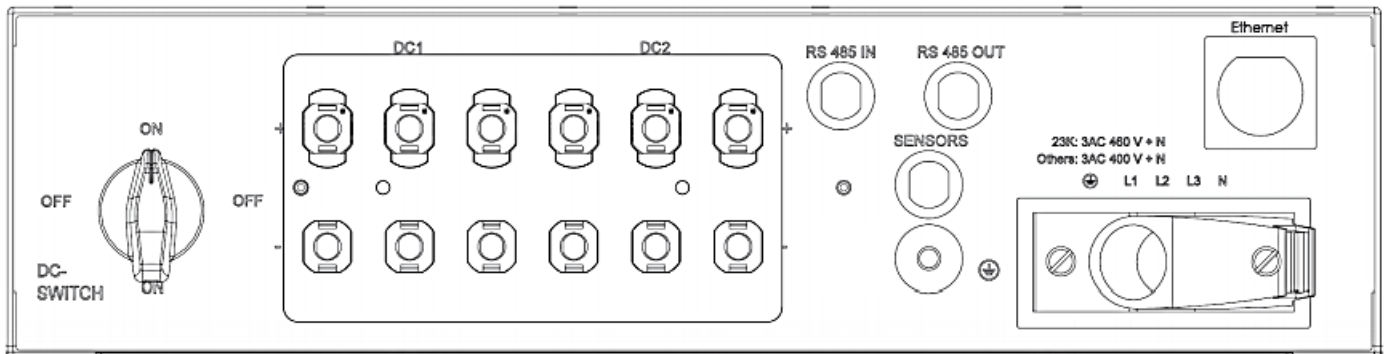

Figure R1 – Refusol String Inverter Connections
1. Please open RS485 terminal (communication port 1) as shown in *Figure R1*.